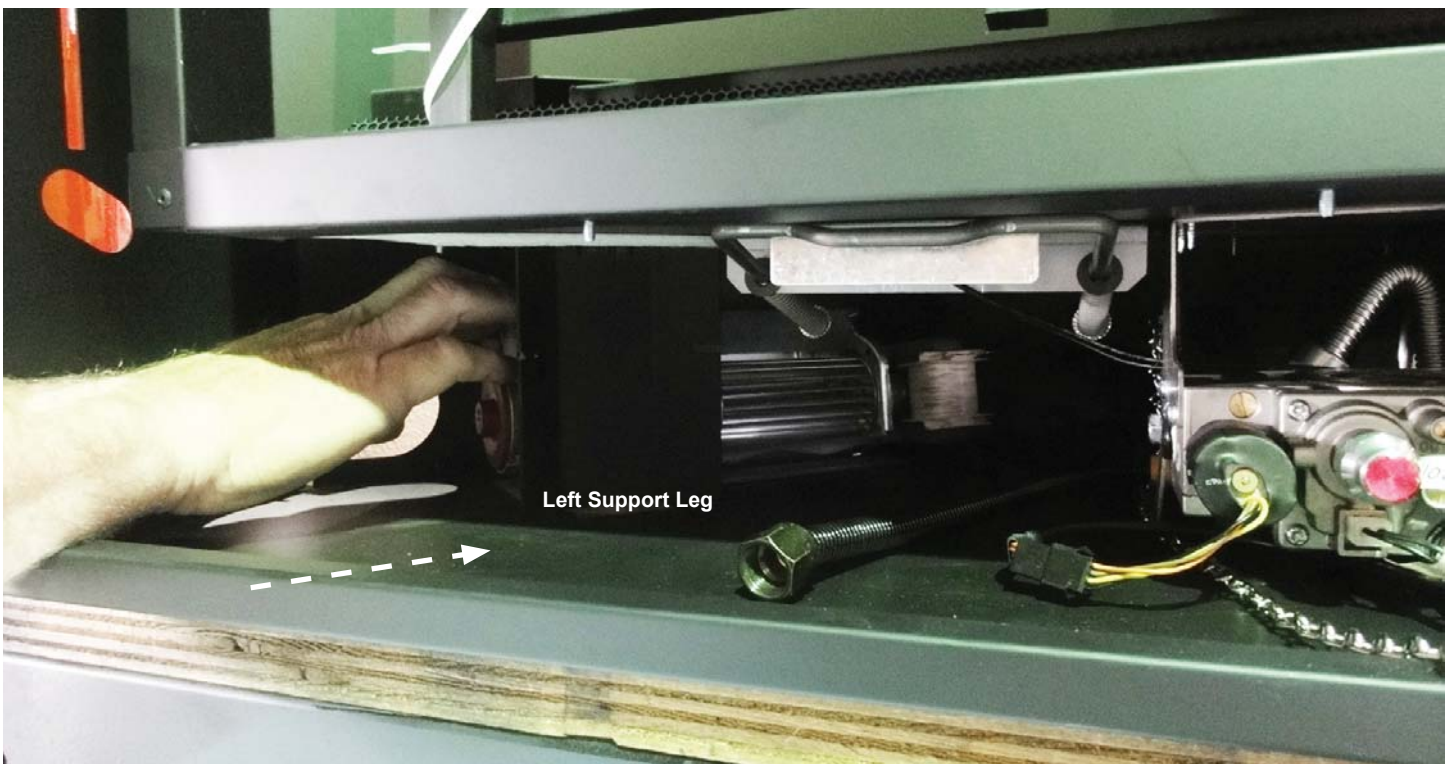

Figure 2
4. Route the left side blower to the left and behind the support leg. Figure 2